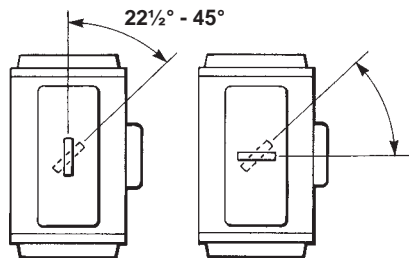

Fig. 7
- 5 To ensure proper meshing of the teeth, rotate the centre gear $22\frac{1}{2}^{\circ}$ - 45° (one or two teeth) counter clockwise from its normal position with the piston assemblies situated at the body ends. (Normal position is that which provides the proper output shaft orientation - See Fig. 7).